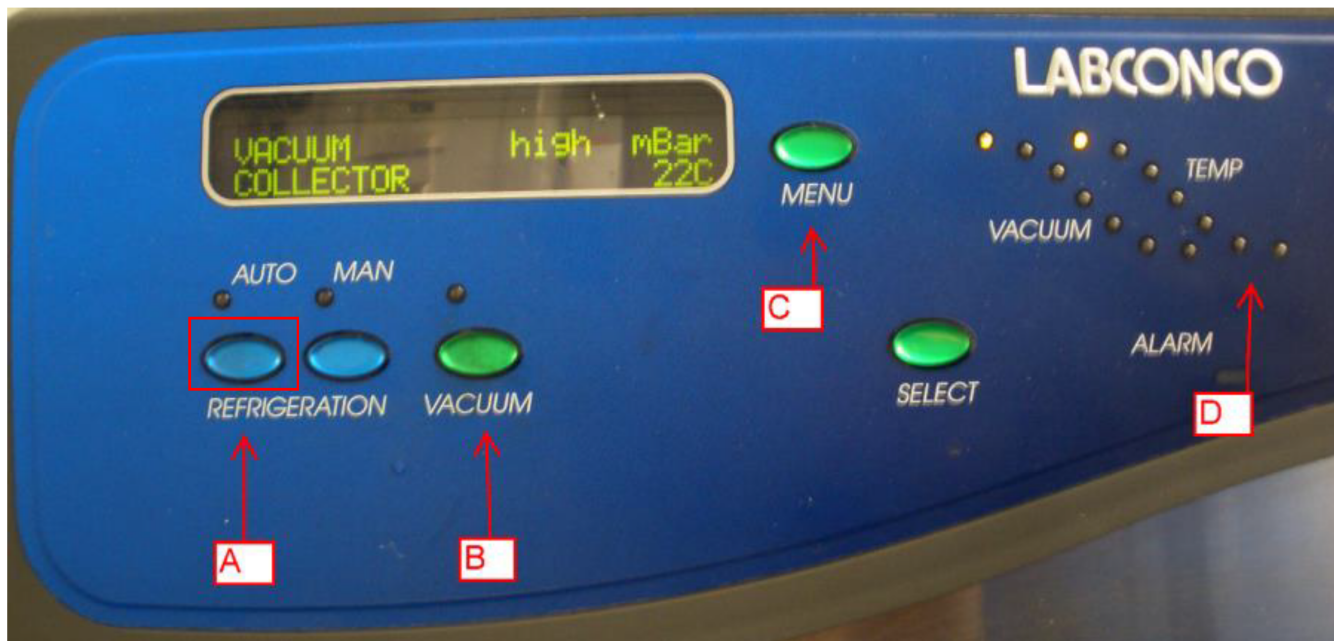

Figure 2. Freeze dryer control panel.
5. Press the "Auto Refrigeration" button (*Figure 2, arrow A*) and then the vacuum button (*Figure 2, arrow B*). The temperature will start to drop and the vacuum pump will turn on.
- c. The indicator lights (*Figure 2, arrow D*) show how the cooling and pressure reduction are progressing. When all indicator are lights are on the freeze dryer is at its peak performance.
- d. If there is an error the red "Alarm" light will turn on. Press the "Menu" button (Figure 2, arrow C) to view it and clear it if necessary.